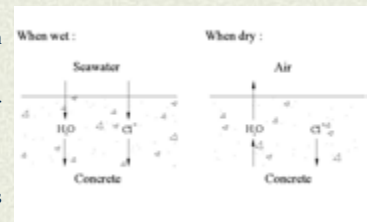

Figure 5 Ingress of chlorides in concrete subjected to regular wetting and drying
- Corrosion due to chloride attack is the most serious at regions subjected to periodic wetting and drying. (Fig.5)